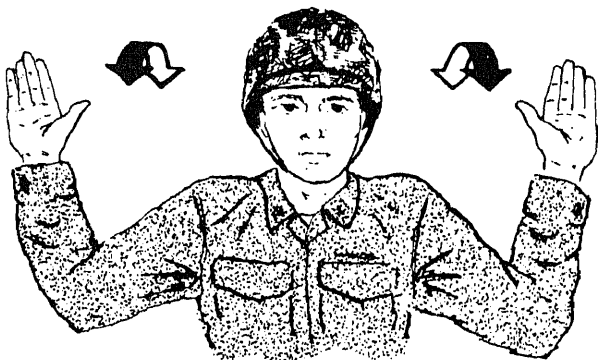

Figure 8-22.—To direct helicopter backward.
2. To Direct Helicopter Backward. Extend your arms and hands above your head with your palms facing toward the helicopter. Move your hands in a manner that simulates a pushing motion. (See fig. 8-22.)